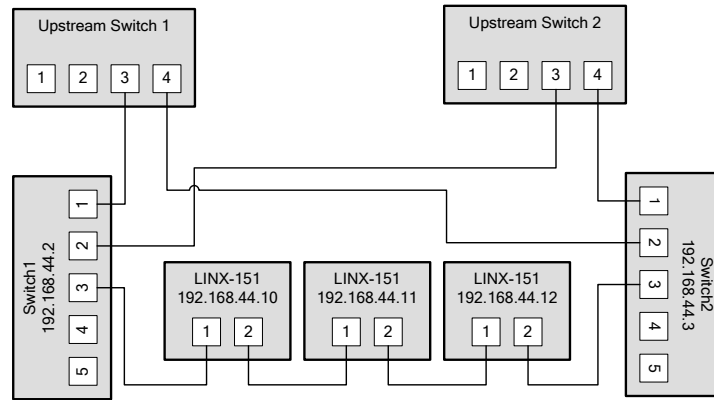

Figure 153: Ring Ethernet topology
**Ring topology:** In this setup, the devices are connected in a chain and each end of the chain is connected to a different upstream switch. This topology requires RSTP. If a single device is powered off, the RSTP will automatically recalculate the spanning tree so that all other devices in the chain are reachable. Only if two devices are power-off at the same time, the devices between them will not have an Ethernet connection. In Figure 153, the L-IP devices with IP addresses from 192.168.44.10 to 192.168.44.12 are connected in this way. The recommended maximum number of daisy-chained devices is 20.